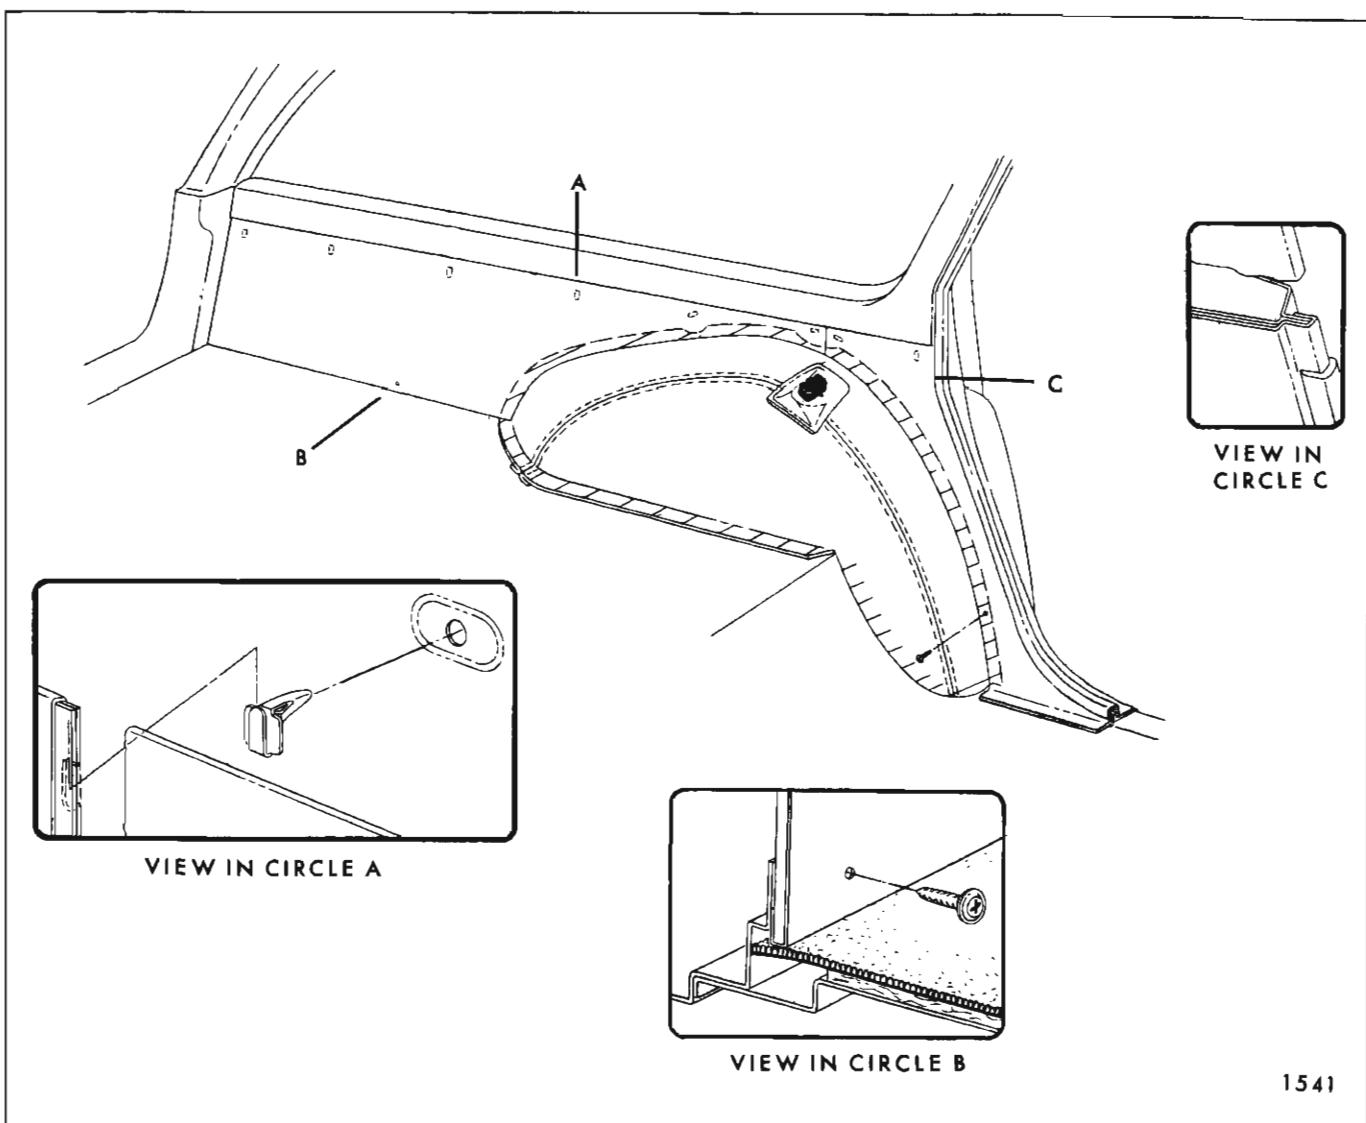

Fig. 2E8—Rear Quarter Trim Installation - Left Side
3. Remove all trim attaching screws at front, rear and bottom of wheelhouse trim cover (see Fig. 2E7).
4. With a putty knife, or other suitable flat-bladed tool, disengage trim retaining clips from sealing plugs along top of wheelhouse cover panel and remove panel from body (see View 'C' in Fig. 2E7).